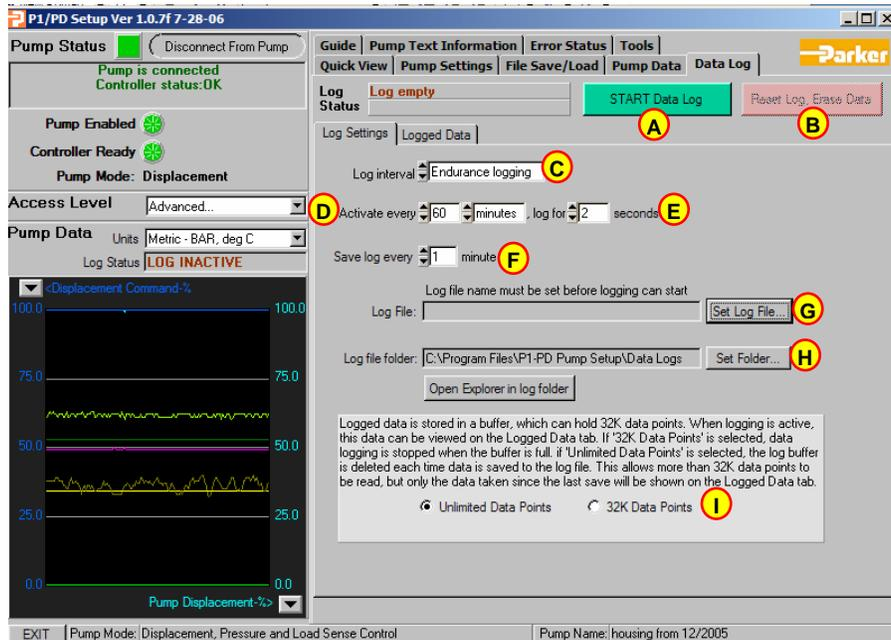

Figure 8: Data log screen of P1/PD GUI
17. The GUI has data logging capability. Figure 8, shows the “Data log” screen where the different signals can be logged to a .csv file which is excel compatible. Make certain the signals to be logged are checked in the “Pump Data” screen, Figure 7. If the signal is not checked it will not be logged.
18. Figure 8 shows the data logging screen. The following steps will describe how to log and save data.